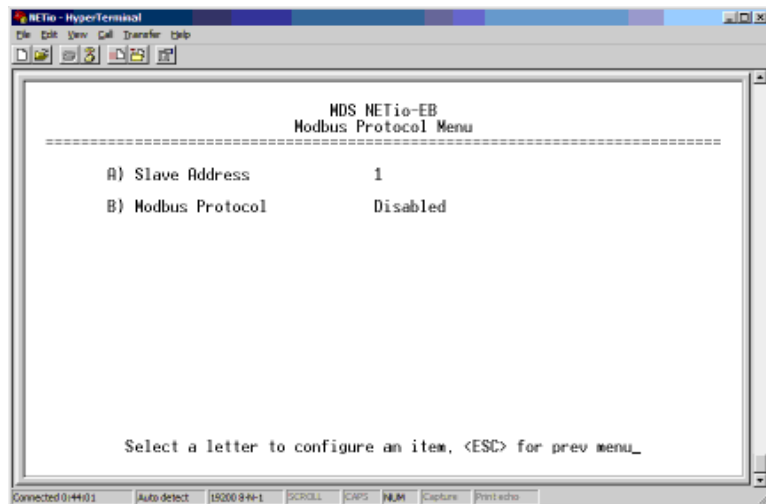

Figure 6-16. Modbus Protocol Menu
3. In the Modbus Protocol Menu (Figure 6-16), select **A)** to enter the Modbus® Slave Address. Next, select **B)** to enable the Modbus® protocol.